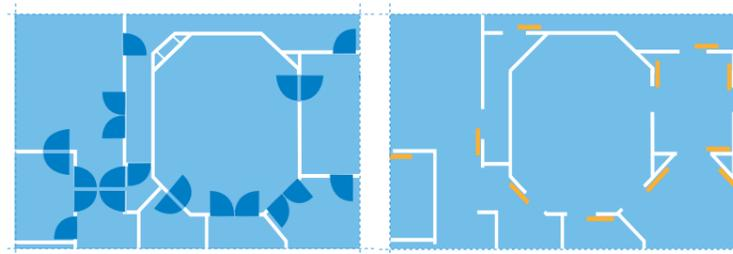

Figure 3. Sliding vs swing doors can save up to 15% of space based on opening area that swing door requires
| 3. Available space | <ul style="list-style-type: none"> How critical is it to save space in each concrete case (see Figure 3)? What space is required for particular door type installation? |
- Certain door types can save more space than others. For example, sliding doors are up to 15% more space efficient than standard swing doors, which require 1.5–2 m² of floor space for opening (see Figure 3).